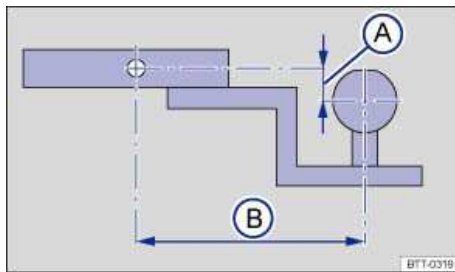

Fig. 86 Dimensions of the ball mount support.
⇒ fig. 86 (A), and the pin-to-ball distance (B).